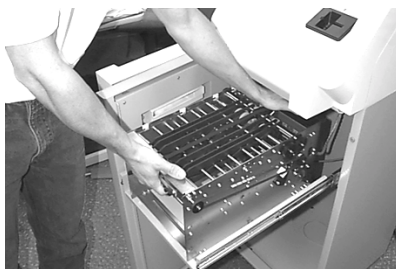

Figure 4. Installing the dispensing mechanism.
7. Refer to Figure 4. Install the dispensing mechanism by sliding the end with the circuit board into the tray in the cabinet. The mechanism should slide under two tabs in the rear and the front edge slots should align with the two bolts provided with wing nuts. Once the mechanism is fully engaged into the tray, tighten the wing nuts by hand.